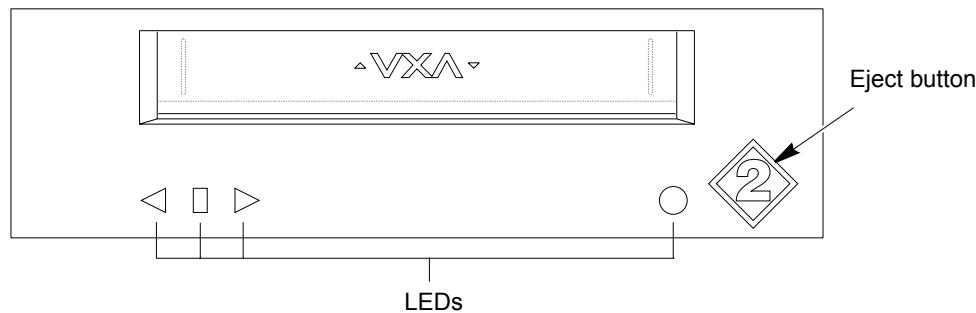

Figure 4-3 Location of tape drive's eject button and LEDs
2. Press the eject button on the drive's faceplate (see **Figure 4-3**).
The VXA-2 tape drive's faceplate has four LEDs, shown in **Figure 4-3**, that indicate the drive's operational status.